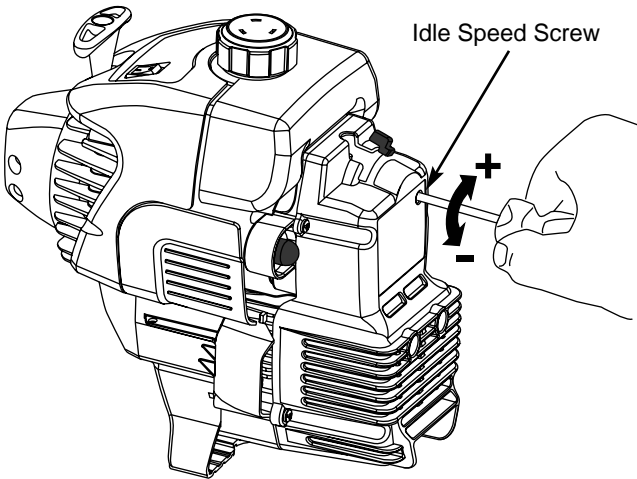

Fig. 27
The idle speed of the engine is adjustable through the air filter/muffler cover (Fig. 27).
2. Release the throttle trigger and let the engine idle. If the engine stops, insert a small phillips screwdriver into the hole in the air filter/muffler cover (Fig. 27). Turn the idle speed screw in, clockwise, 1/8 of a turn at a time (as needed) until the engine idles smoothly.